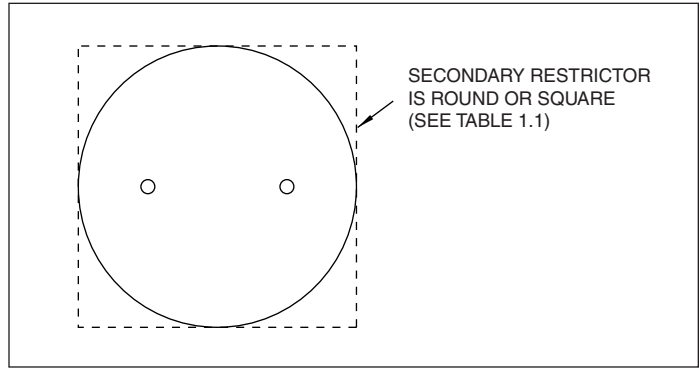

Figure 2.3
10. To mount the modified vent cap assembly on the duct furnace, place vent cap over the square opening on the roof panel and slide the vent cap vent pipe over the collector box collar. The bottom of the vent cap will not be touching the roof (See Figure 2.3).